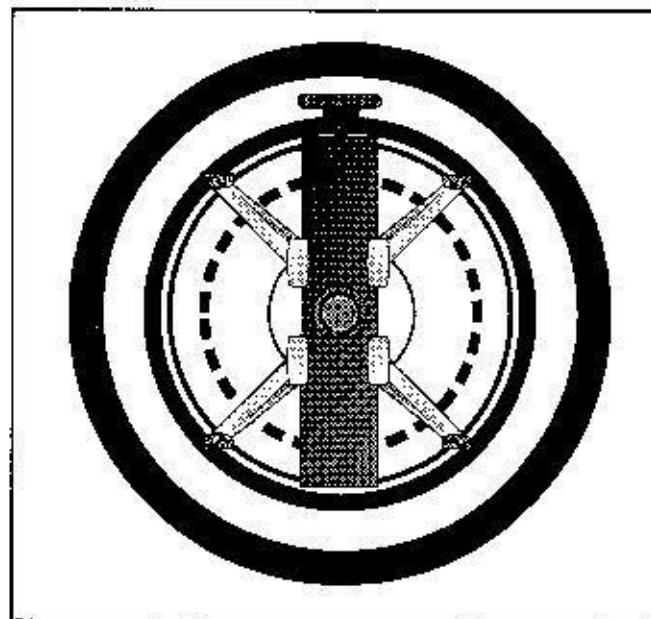

Figure 1-12
1. To attach clamp to wheel, position the large black knob toward the top of wheel (see Figure 1-12). Set the lower hooks against wheel rim (or hook them around the bottom edge of the rim, depending on which hooks are used).